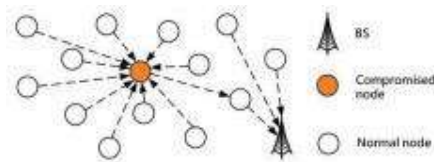

Figure 4.1 Tampering Attack
- An attacker can damage or replace sensor and computation hardware and the program codes or remove sensitive materials like cryptographic keys to allow unrestricted access to higher levels of communication (Figure4.1). Thereby these tampering nodes interfere in the physical access of sensor nodes.